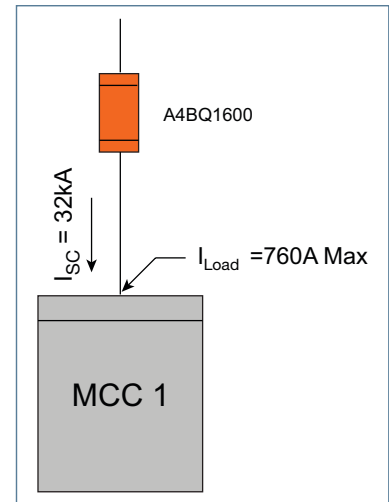

Figure 3: Single Line Diagram
**Situation.** In the application depicted in Figure 3, the feed to MCC1 is protected